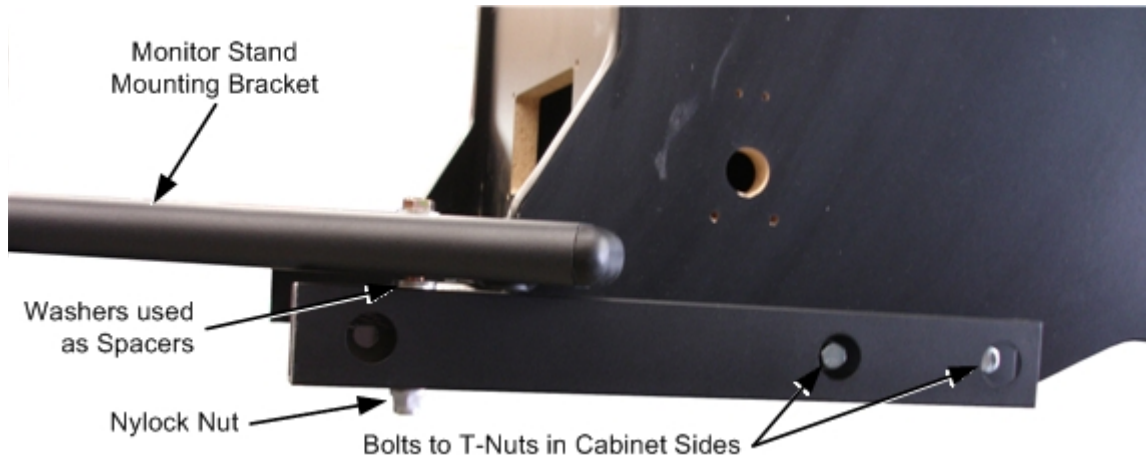

Figure 3. Cabinet and Mounting Bracket, Side View
4. Place the stand in front of the cabinet so that each Mounting Bracket extends along the side of the cabinet as shown in Figure 2 and Figure 3.
5. Secure each Mounting Bracket to the cabinet with two (2) 2" bolts with lock washer as shown in Figure 3. The bolts pass through the holes in the bracket into T-nuts in the cabinet sides.